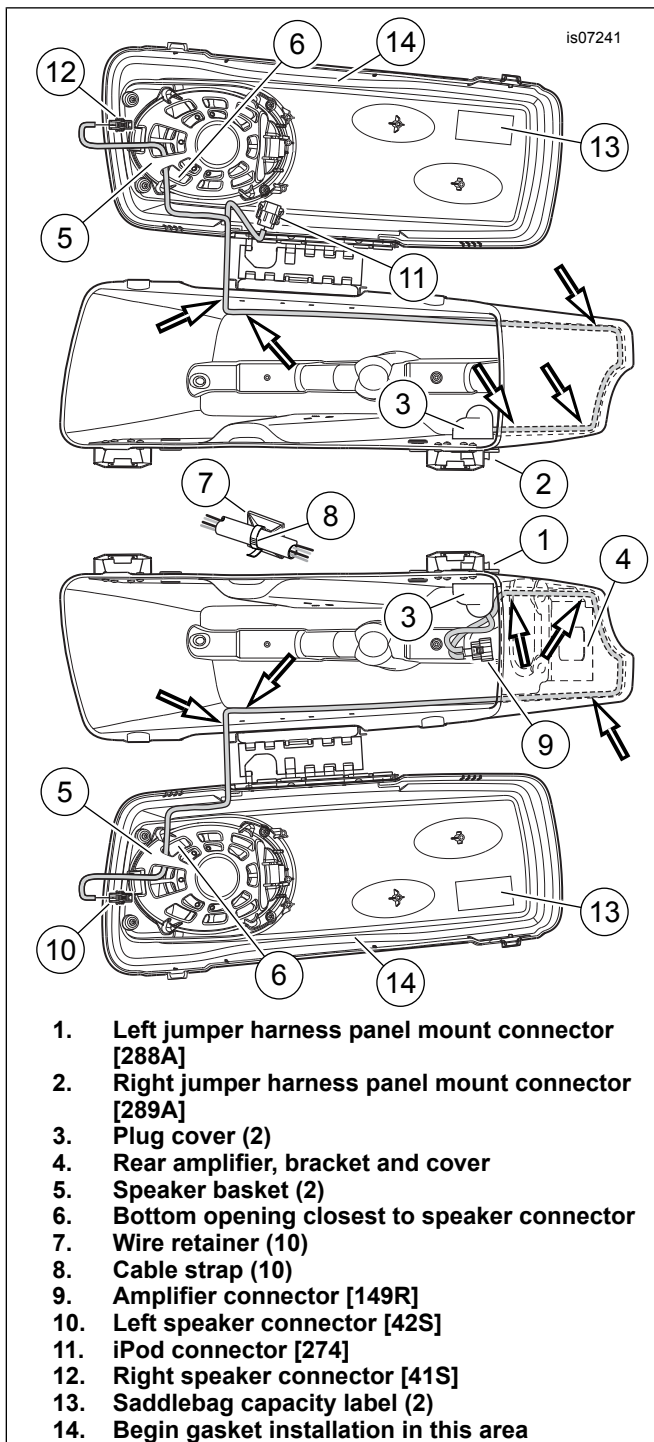
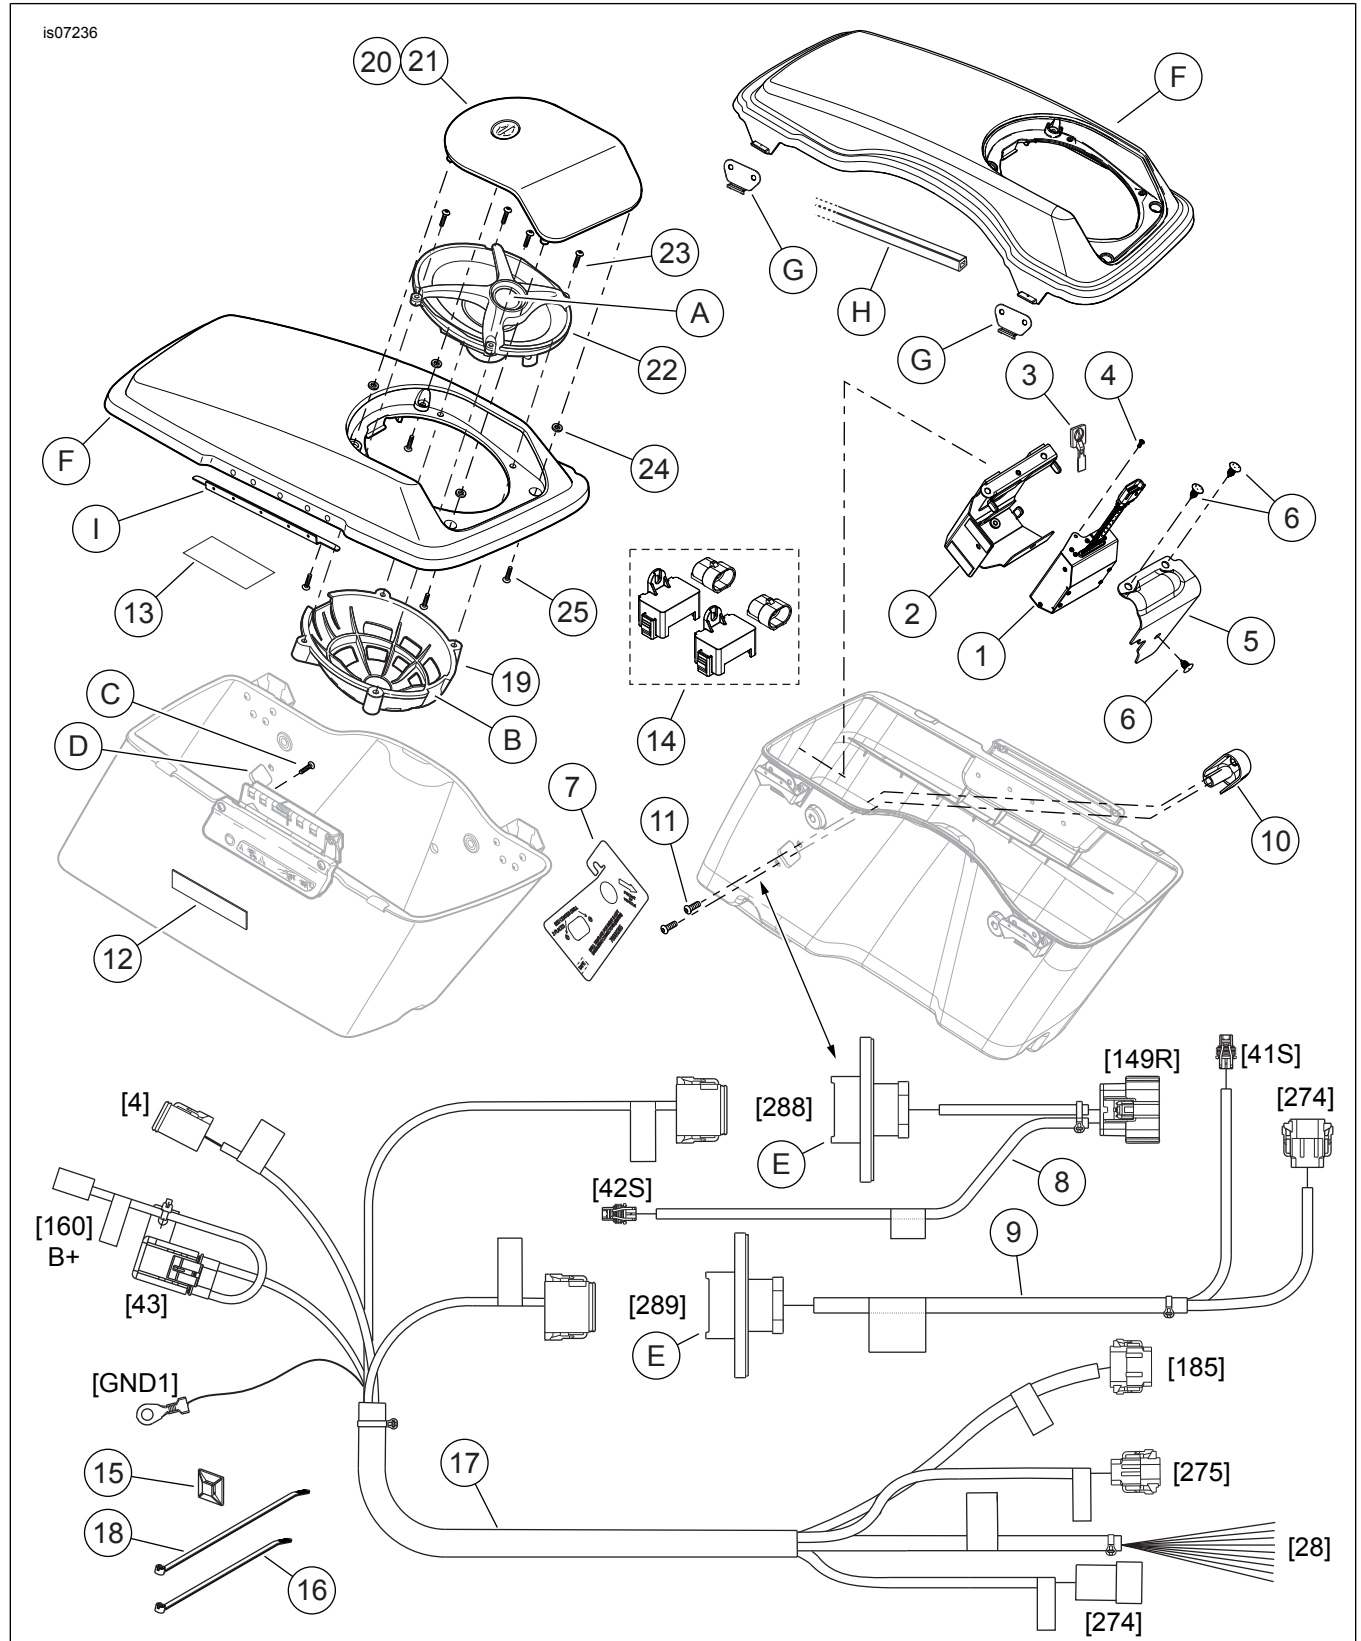

Figure 5. Harness Routing Inside Saddlebags
Figure 7. Service Parts, CVO Speaker Expansion Kit
10. See Figure 5. Install the plug cover (3) over the panel mount connector (1) and jumper harness from the **inside** of the saddlebag. Insert two screws, from the **outside**, through the connector flange and saddlebag wall, and into the threaded holes in the plug cover. Tighten to 3.95–4.52 N·m (35–40 **in-lbs**) Lay the harness in the bottom of the saddlebag.
- Begin gasket installation in the center of the inboard side of the lid, opposite the hinge (see Figure 5, Item 14).
2. See Figure 5. Route the saddlebag speaker jumper harness (installed into the saddlebag earlier):
3. Route connector [42S] through the bottom opening (6) of the speaker basket (5) closest to the speaker connector, and plug into the speaker connector.
4. Get five wire retainers (7) and five cable straps (8) from the kit. Remove the liner from the adhesive backing of each wire retainer and affix to the inside walls of the saddlebag, about 25 mm (1 in) above the bottom of the saddlebag as shown. Fasten the jumper harness to the wire retainers with the cable straps.
5. See Figure 7. Get the rear amplifier (1), bracket (2), T-stud anchor (3), screw (4), cover (5) and three push-in clips (6) from the kit.
8. Fasten the amplifier to the bracket with the screw (4).
- See Figure 5. Route **both** legs of the harness downward, then rearward around to the outboard wall and upward in front of the saddlebag lid tether to the saddlebag lid.
2. Route connector [41S] (Item 12) through the bottom opening (6) of the speaker basket (5) closest to the speaker connector, and plug into the speaker connector .
3. Affix five wire retainers (7) to the inside walls of the saddlebag, about 25 mm (1 in) above the bottom of the saddlebag as shown. Fasten the jumper harness to the wire retainers with cable straps (8).
4. **If an iPod module is being mounted to the saddlebag lid**, follow the instructions later in this document. **If an iPod module is NOT being mounted to the saddlebag lid**, coil the connector [274] (11) leg of the harness against the side wall of the saddlebag lid. Tie the coil with a cable strap (8). Use a wire retainer (7) affixed to the lid to prevent damage to the connector or saddlebag.
1. See Figure 7. Get the audio harness (17) from the kit.
2. Plug the twelve-way connector, labeled "LH S'BAG 288" into the receptacle on the left-side saddlebag (see Figure 5, Item 1). The connector has a key feature to prevent improper assembly. Listen for a definite "click".
4. Plug the twelve-way connector, labeled "RH S'BAG 289" (2) into the receptacle on the right-side saddlebag. Listen for a definite "click". Fasten that leg of the wire harness to the upper rear of the saddlebag support in the same manner.
9. See Figure 7. Route the four branches of the front section of the audio harness (17) inside the fairing along the path of the interconnect harness to the top left of the inner fairing.